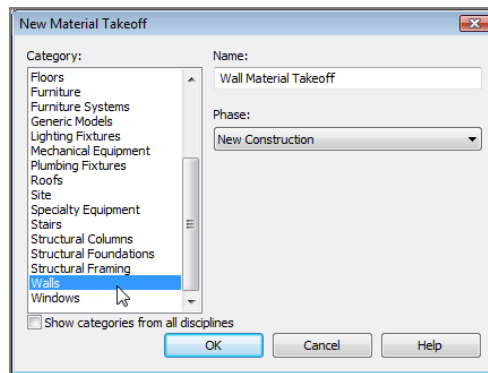

FIGURE 11.26: Select Walls in the New Material Takeoff dialog.
2. In the New Material Takeoff dialog, select Walls, as shown in Figure 11.26.